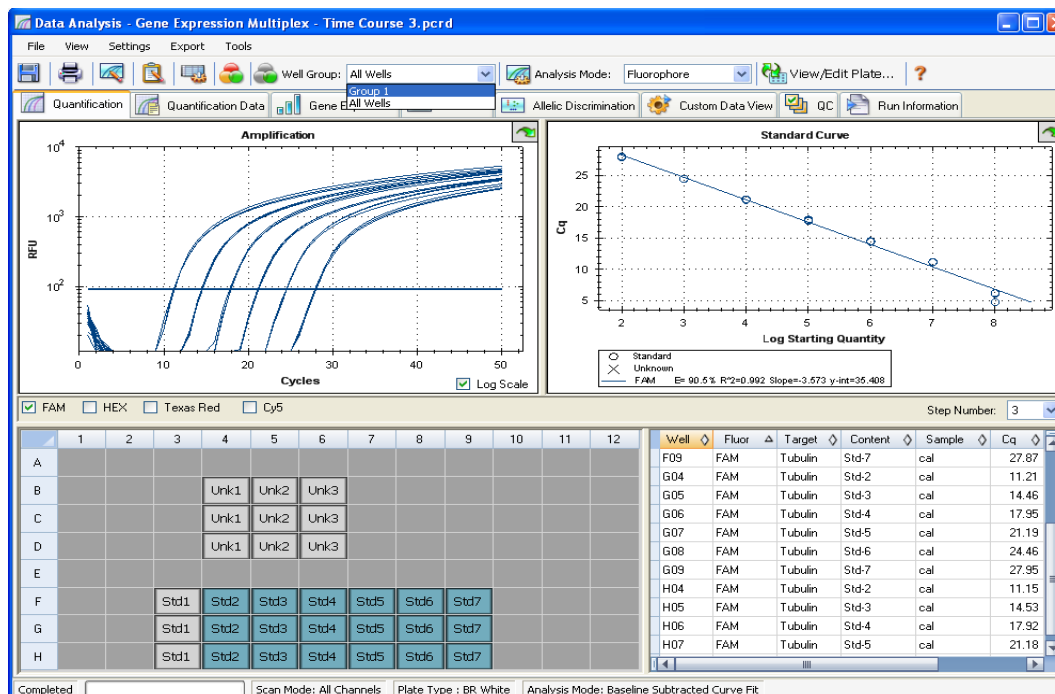

Figure 60. Quantification tab in the Data Analysis window with Group 1 selected.
Each tab in the Data Analysis window displays data in charts and spreadsheets for a specific analysis method and includes a well selector to select the data you want to show. The Data Analysis window opens with the Quantification tab (Figure 60) in front. The **Amplification** chart data in this tab should be used to determine the appropriate analysis settings for the run.
Figure 60 shows Group 1 selected in the Well Groups menu. Only the wells in that well group appear loaded with content in the well selector and data only for these wells are included in the data analysis calculations.
1. Select one fluorophore in the fluorophore selector in the Quantification tab (Figure 60) by clicking the boxes next to the fluorophore name located under the Amplification chart.
1. Select a single fluorophore in the Quantification tab (Figure 60) by clicking the box next to the fluorophore name located under the Amplification chart.